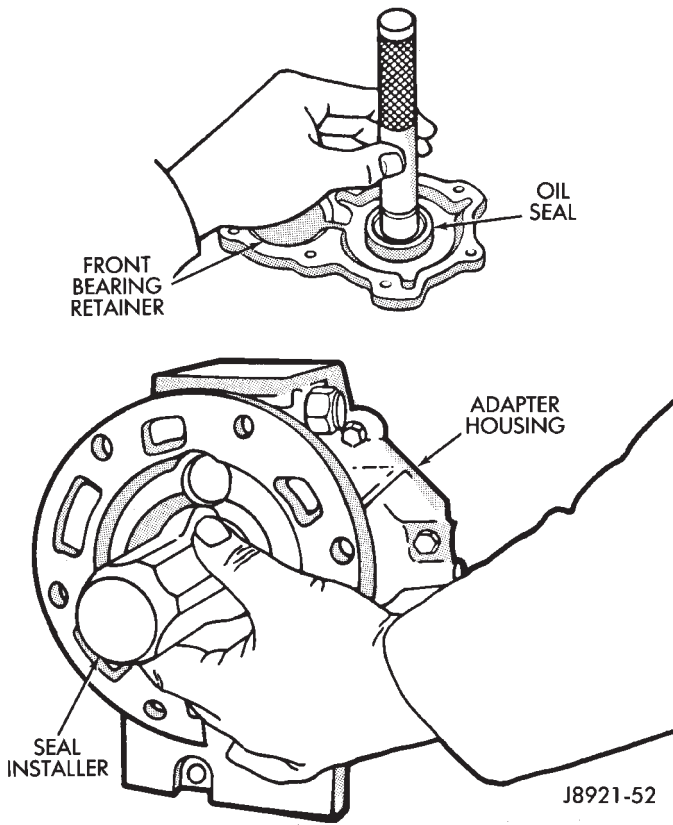

Fig. 45 Oil Seal Installation
(4) Install new oil seals in front bearing retainer and adapter (Fig. 45). Bearing retainer seal depth is 11.2 - 12.1 mm (0.441 - 0.480 in.).